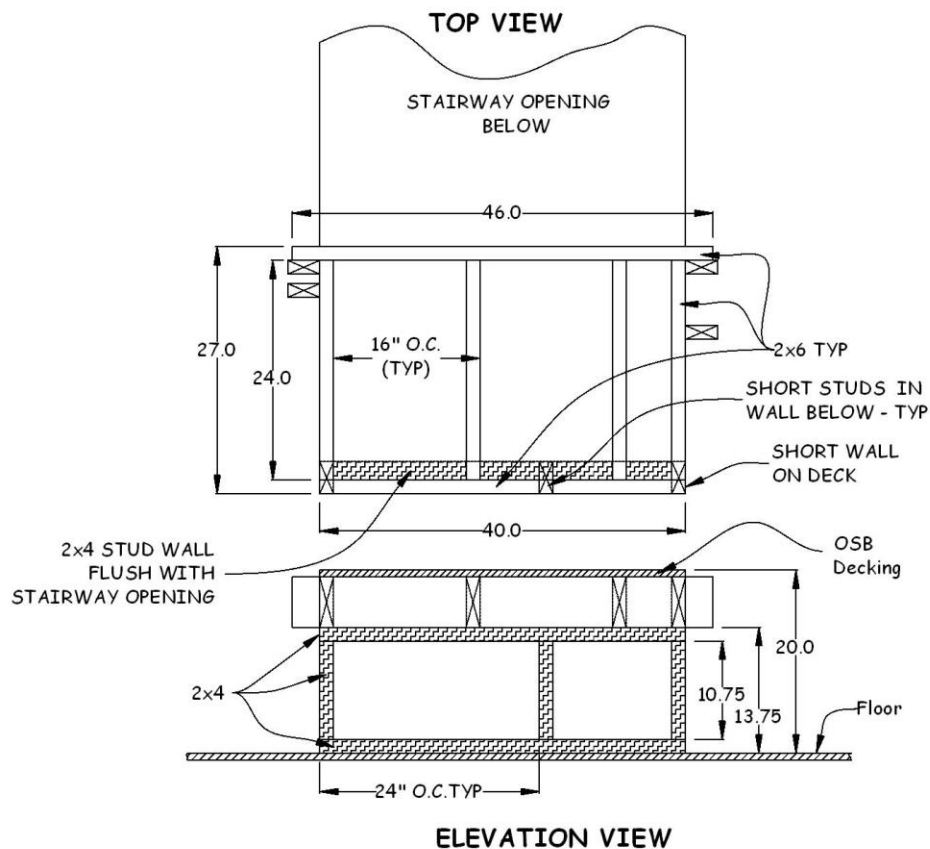

Figure 6-9. Closet Over Stairway.
- stud inside the adjoining walls. Check the location of the wall studs to be sure that the 2x6 will not interfere on either side (see Figure 6-9). Once the platform is in place, with one end sitting on the short, 2x4 stud wall at the end of the opening, the other end will extend 24" over the opening. Adjust if necessary so long as the platform does not extend more than 24".